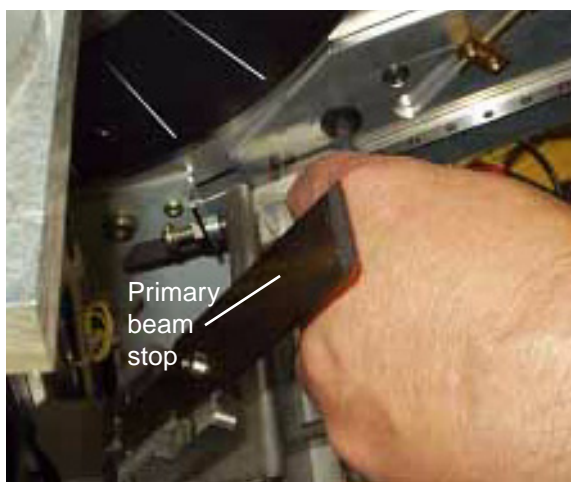

Figure 5.8 - Mount the primary beam stop
7. Drive the sample holder to 30° and mount the beam stop for the D4 (see Figure 5.8). Place a T-nut into the groove ring of the goniometer and tighten the fixing screw. Ensure that the two additional pins also fit into the groove ring.